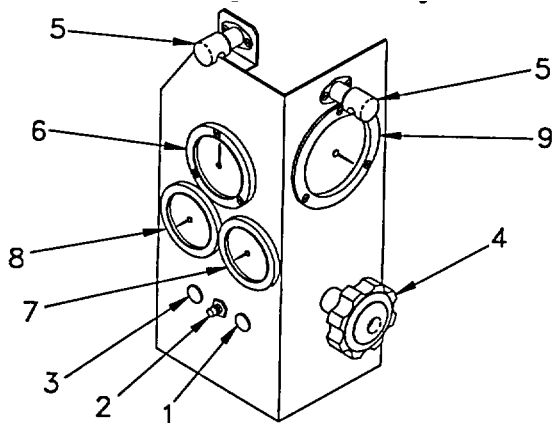

Figure 2-7. Control Panel Assembly
g. Control Panel. (Refer to Figure 2-7).
- (1) Engine Glow-Plug Button (1). Used in cold weather to ready the diesel engine for starting.
- (2) Power-On Button (2). Provides DC current to the lube unit.
- (3) Engine Start Button (3). Starts the engine.
- (4) Throttle Knob (4). Increases and decreases engine RPM.
- (5) Panel Lamps (5). Illuminates controls for night missions.
- (6) DC Amperage Gauge (6). Indicates amperes generated by the alternator.
- (7) Oil Pressure Gauge (7). Indicates engine oil pressure.
- (8) Fuel Gauge (8). Indicates tank fuel level.
- (9) Air Pressure PSI Gauge (9) Indicates air pressure in air-receiver tank.